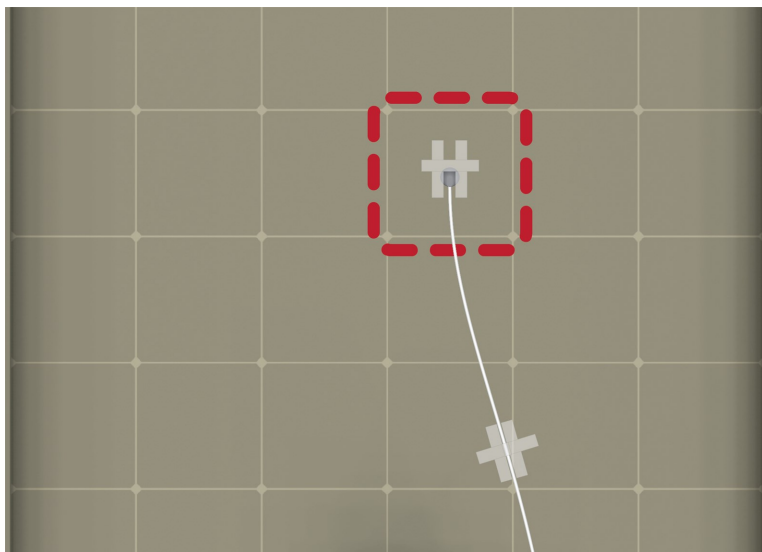

FIGURE 7-1. Proper tape usage
2. Place the other strips of tape perpendicular and on top of the first strip of tape and rub the tape surface to remove bubbles. These strips of tape should form an H (FIGURE 7-1 (p. 13)).